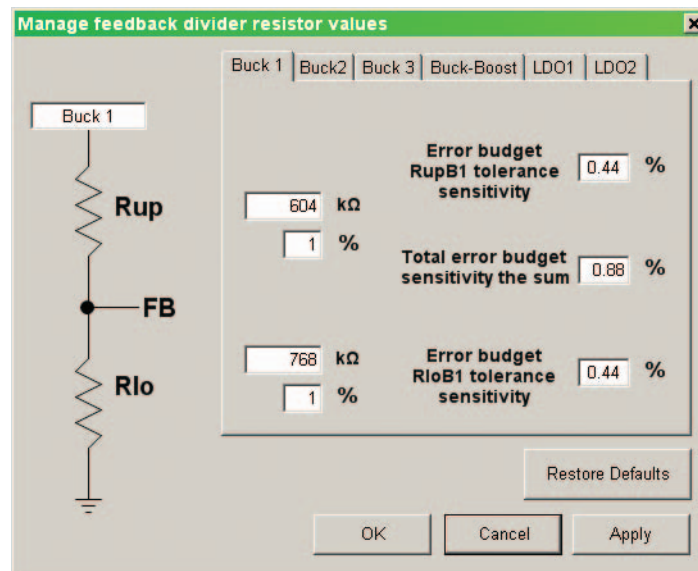

Figure 4. Manage Resistors Form
- The Manage Resistors form (Figure 4) is brought up by pressing the Change Resistor Divider Networks button on the LTC3589 form.
This button brings up the Manage Feedback Divider Resistor Values form (Figure 4), which allows for different feedback divider resistor values. Any changes made in this form will immediately be reflected in the appropriate voltage value boxes on the LTC3589 form. It is the user's responsibility to ensure that the values in this form are the same as the values of the actual resistors on the demo board.